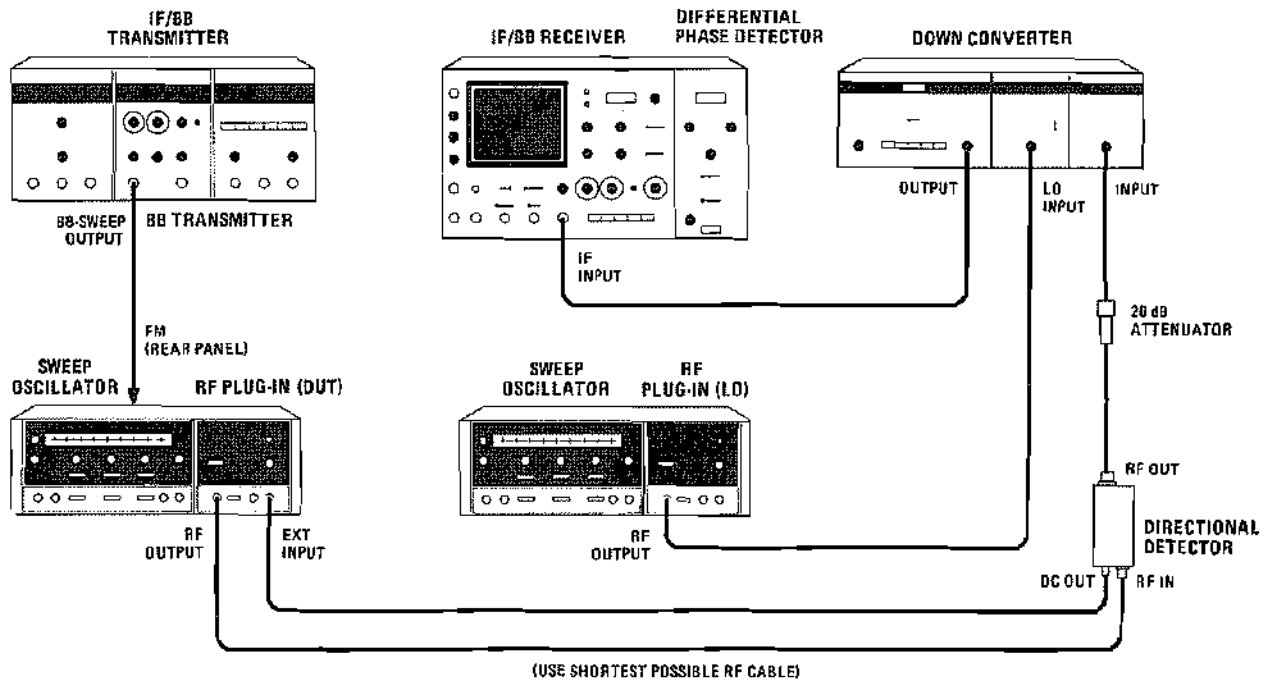

Figure 4-22. Upconverter Simulation Test Setup
a. Connect equipment as shown in Figure 4-22.